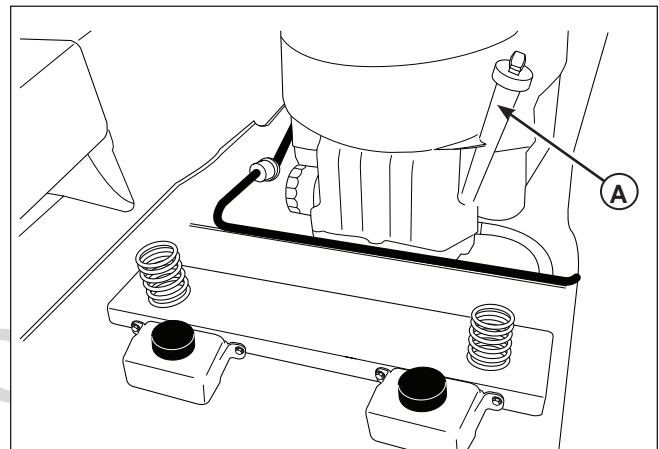

Figure 3. Checks Before Starting
- Check that crankcase is filled to full mark on the engine oil dipstick (A, Figure 3). See the engine Operator's Manual for instructions and oil recommendations.